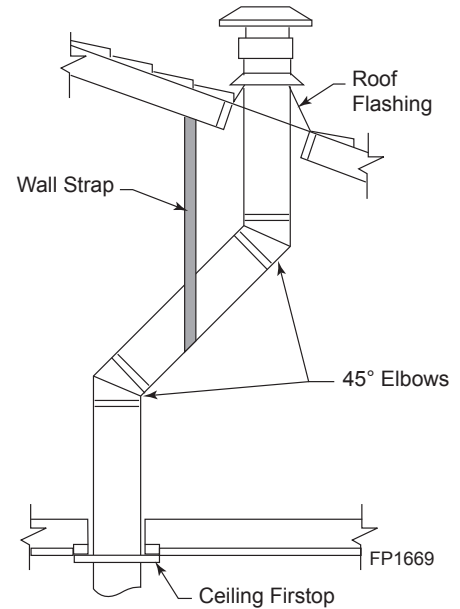

Figure 32 -
1. Determine the route your vertical venting will take. If ceiling joist, roof rafters or other framing will obstruct the venting system, consider an offset. Refer to *Figure 32* to avoid cutting load bearing members.
NOTE: If an offset is needed to avoid obstructions, you must support the vent pipe every three (3) feet. Use wall straps for this purpose. Refer to *Page 26, Figure 32*. Whenever possible, use 45° elbows instead of 90° elbows. The 45° elbow offers less restriction to the flow of the flue gases and intake air.